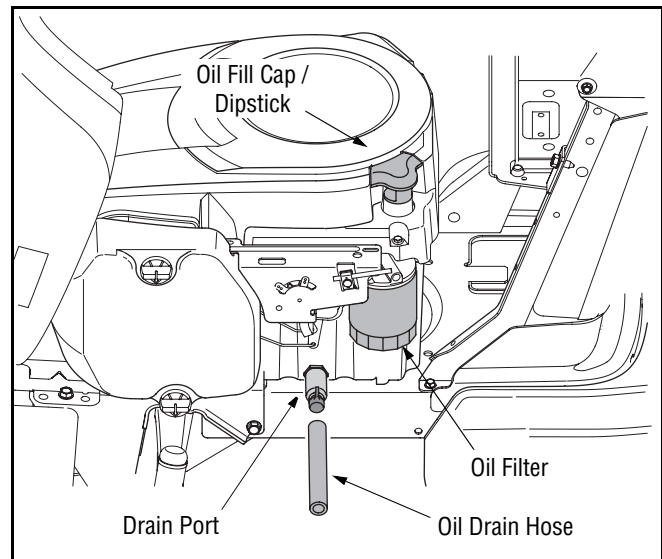

Figure 14
- Pop open the protective cap on the end of the oil drain valve to expose the drain port. See Figure 14
- **Slowly** pour oil into the fill tube. Fill the crankcase until the oil level reaches the full (F) mark on the dipstick (Refer to Figure 14 on Page 19).